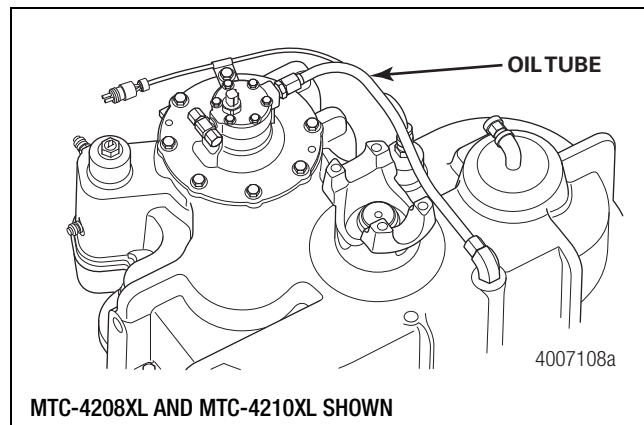

Figure 4.1
- A. Disconnect the transfer case oil inlet line from the oil pump cover. Figure 4.1.